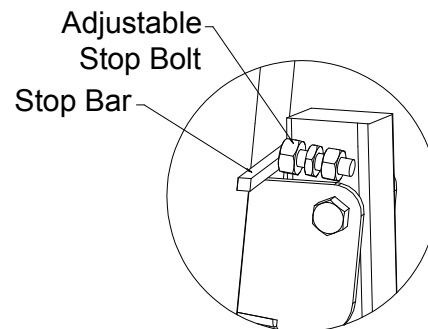

Fig J1
- Raise the Platform up until it is tight against the stop bolts. [See Fig J] Stop bolts must always be touching its stop plate when in the transport position. [See Fig J1] **Do not over tighten the stop bolts. Over tightening will cause damage to the Post.**